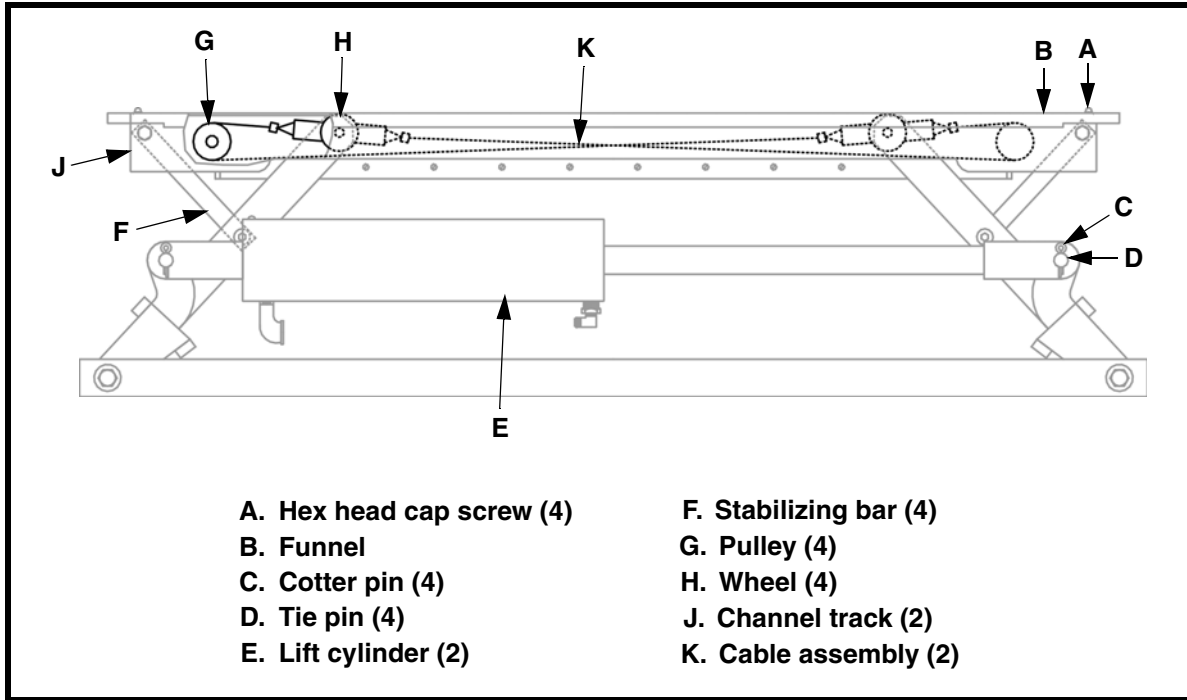

Figure 9. Replacing Cable Assembly
4. Remove four screws (A, Figure 9) holding funnel (B) to channel track.
7. Pull out cotter pin (C) and tie pin (D) from yoke side of cylinder (E) to release any upward pressure on the Boot-Lift[®] Railcar Connector.
8. Remove eight cap screws and washers from each channel track holding stabilizing bars (F) and pulleys (G).
9. Push stabilizing bars down out of the way and remove wheels (H).
10. Lift the channel track (J) so it will clear edge of pit and slide off frame.
13. Install new cable assembly (K), making sure it hangs like a figure eight over the wheels.